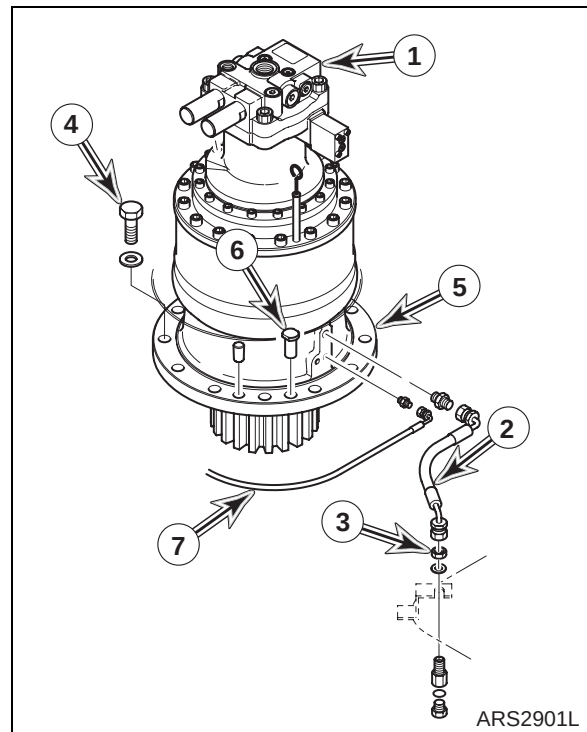

Figure 9
11. Tag and disconnect hoses from swing motor (1, Figure 9). Plug and cap hoses and ports to prevent contamination from entering hydraulic system or component.
12. Remove drain plug (3, Figure 9) from frame and drain oil from reduction gearbox (5, Figure 9).
13. Disconnect hose (2, Figure 9) from main frame by loosening nut (3).
14. Disconnect grease lubrication line (7, Figure 9) from reduction gearbox (5).
15. Remove twelve bolts and washers (4, Figure 9) holding swing reduction gearbox (5) to frame.
16. Using a suitable lifting device, sling swing motor (1, Figure 9) and remove swing motor and reduction gearbox (5) as an assembly from unit.
NOTE: *There are two alignment pins (6, Figure 9), located on reduction gearbox flange.*